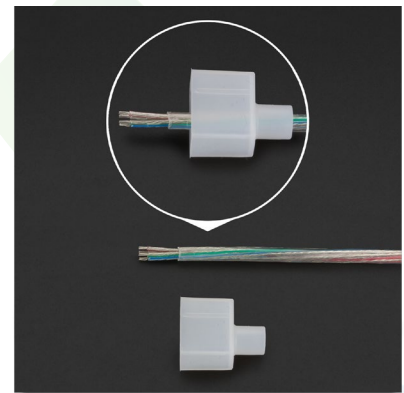

Figure 4.
Step 4 is one of the most important steps in the guide as it is the easiest to forget. Slide the **Cable End Cap** on to the cable wire before proceeding to the next step (see Figure 4). Failure to do this step will cause you to re-do the soldering process.